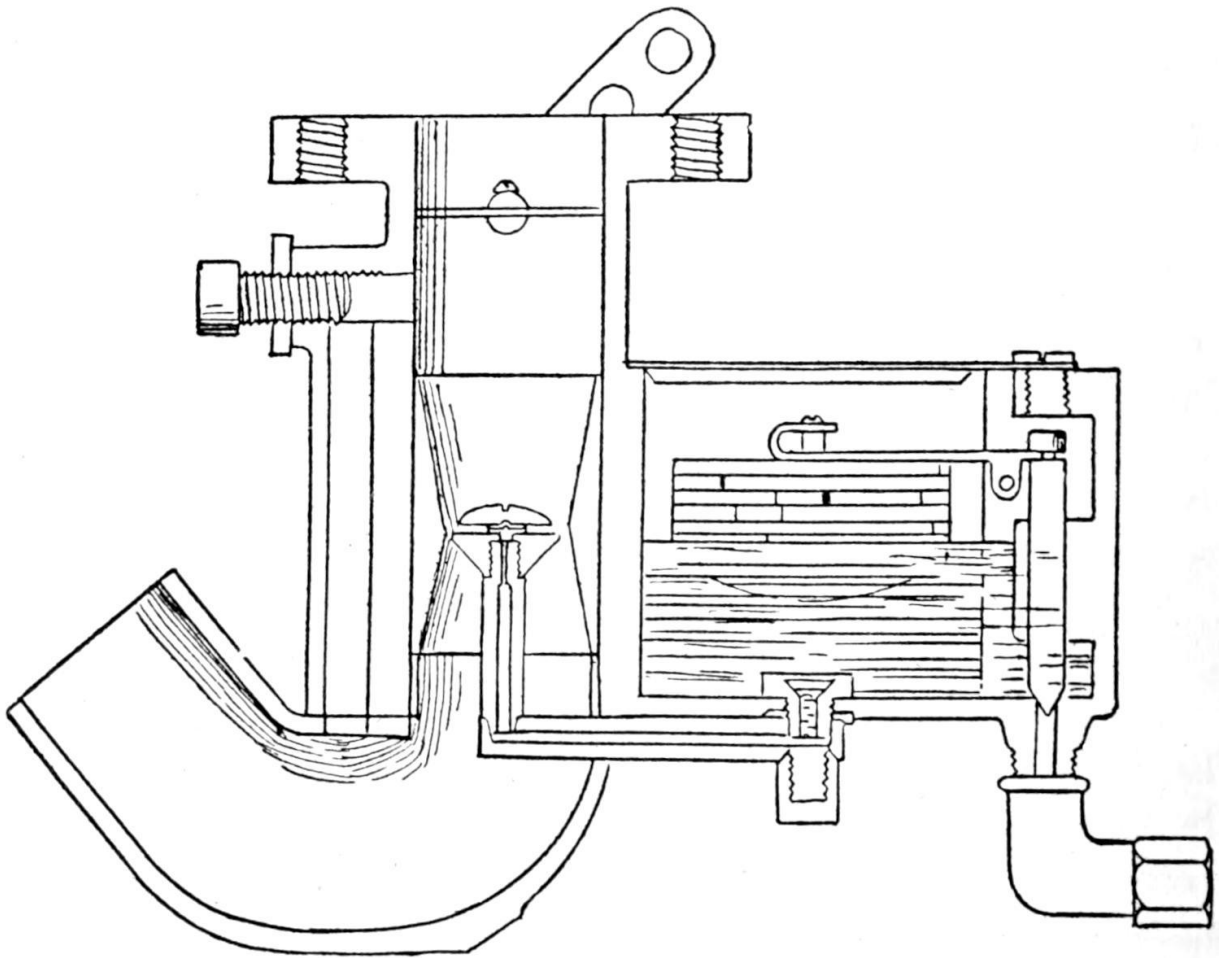
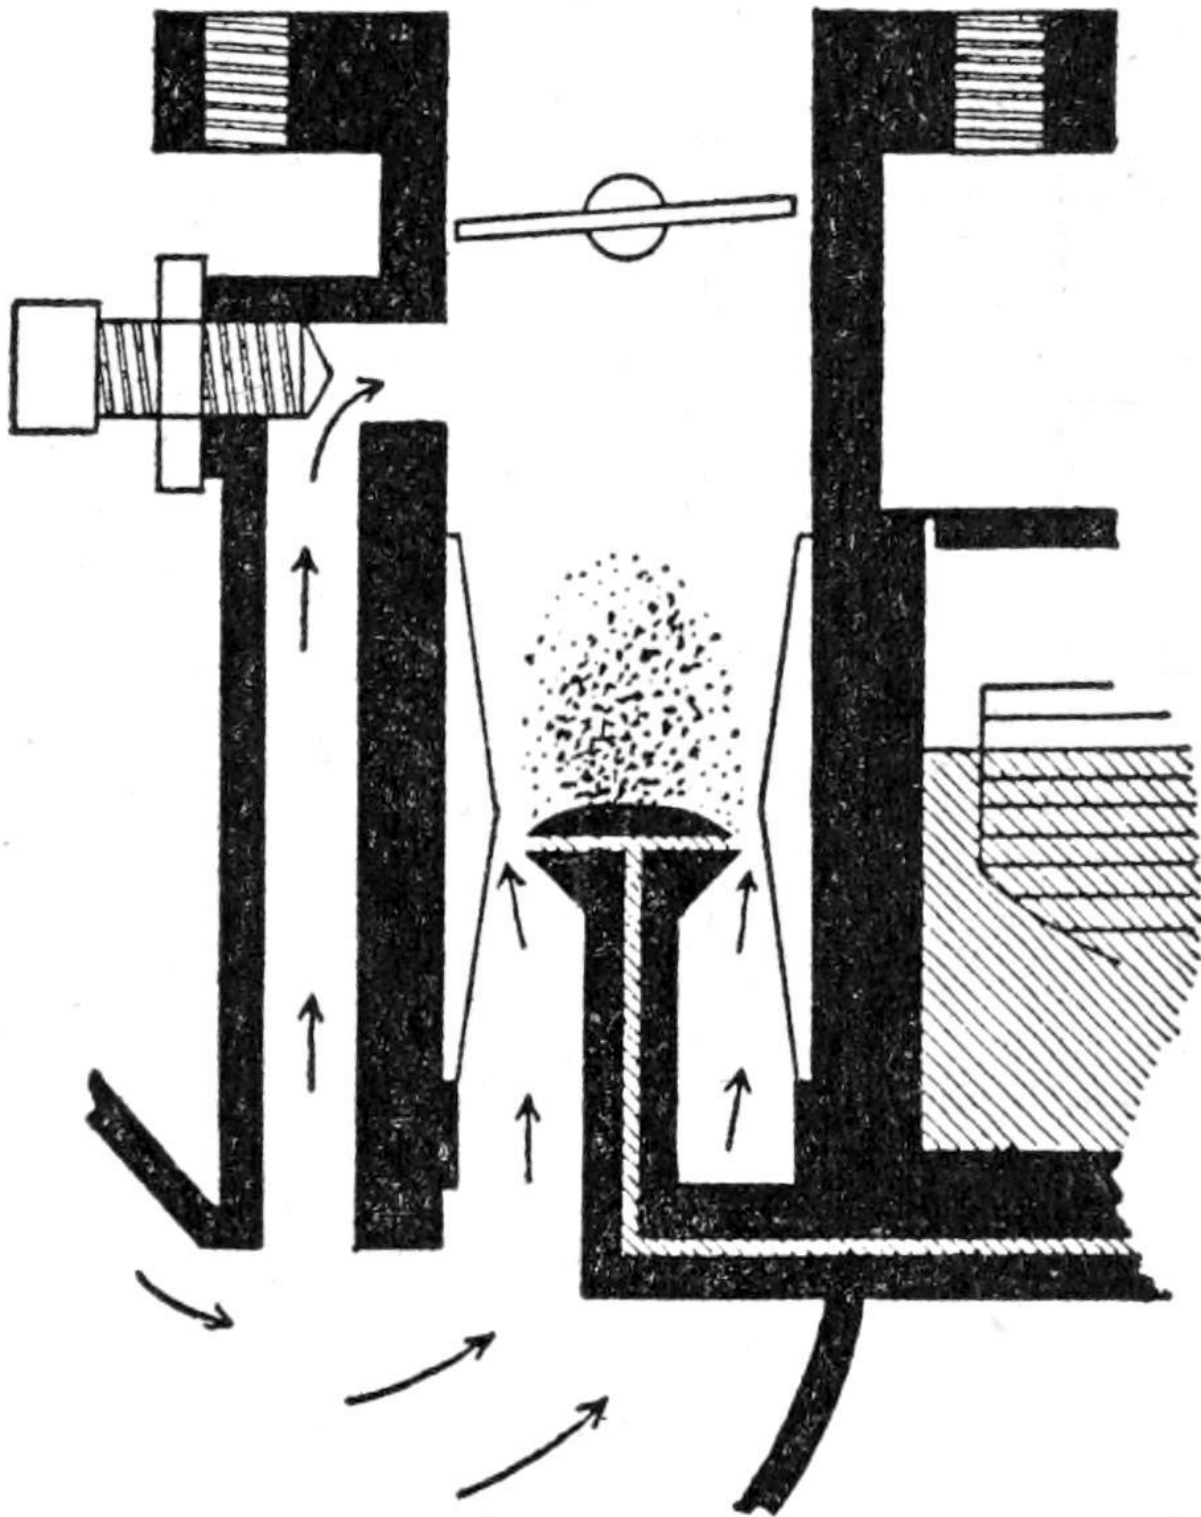
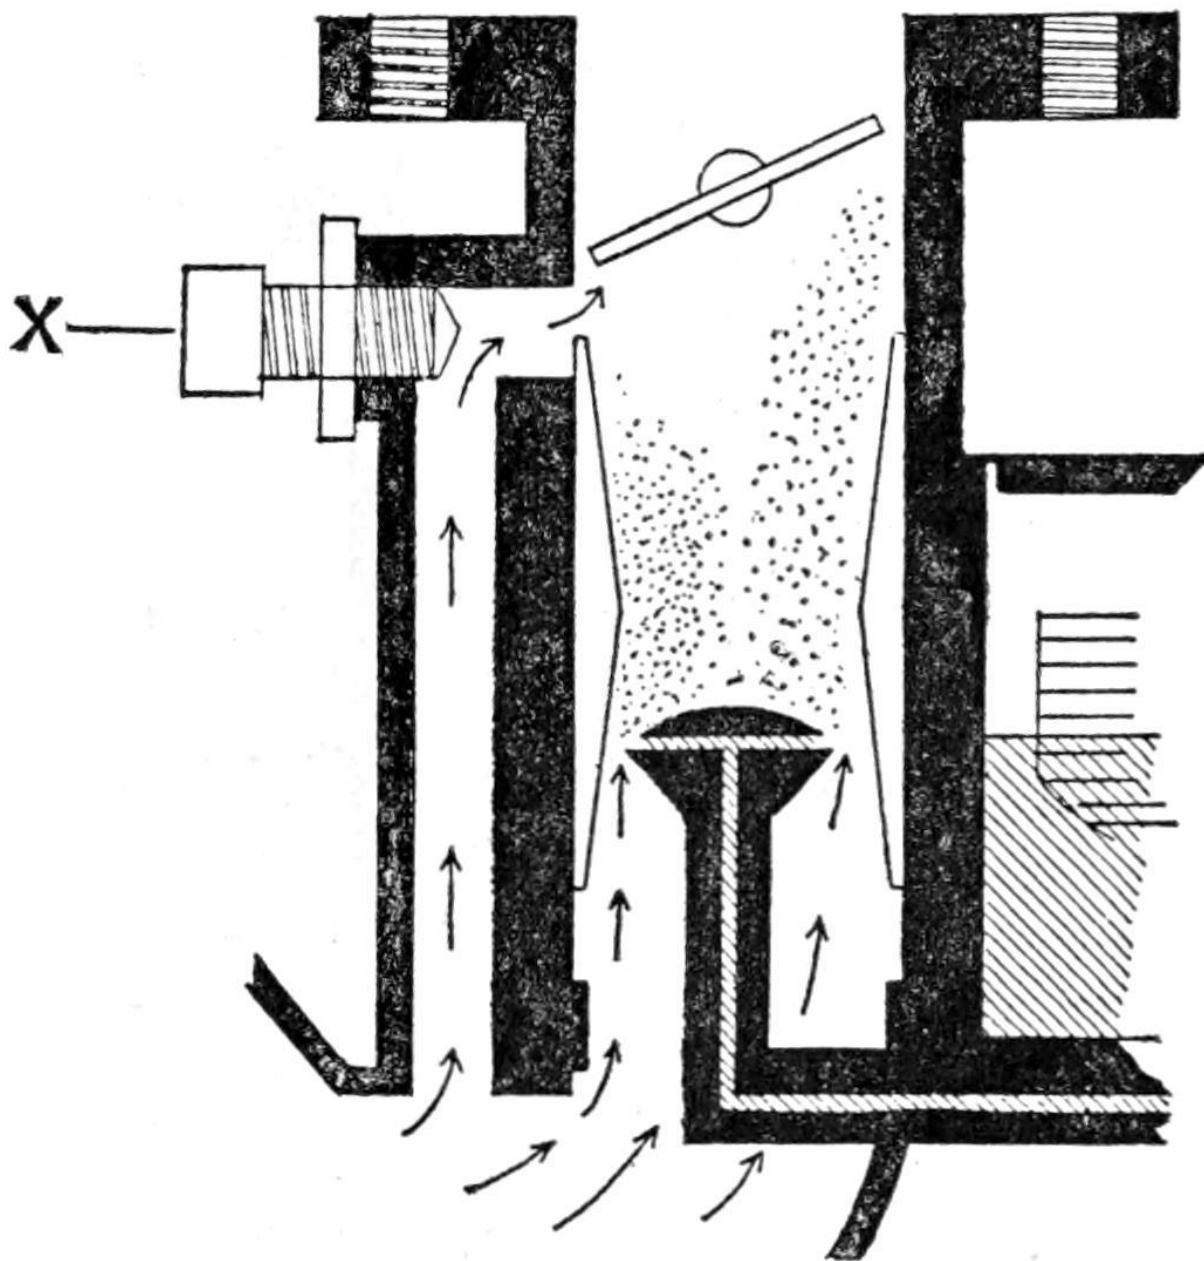

Fig. 34. Sunderman Carburetor
Fig. 35. Sunderman Carburetor
Fig. 36. Sunderman Carburetor
Fig. 34 shows a through section of the new “Nitro”-Sunderman carburetor. This is practically a new model presented to the automobile industry for 1919 and 1920. It is claimed that it is an exact fulfillment of the long sought method of accurate compensation. It is of the single plain tube design with a single gasoline nozzle in the shape of a mushroom placed in
the center of the air passage. Around this nozzle, however, rests the floating venturi which is a large end and small center floating air tube seen in Fig. 35 which hurries the air at low speeds and checks the rush at high velocities. Fig. 35 shows the commencement of action at idling speeds, and as the gasoline for idling comes from the same nozzle which furnishes the maximum power, an air by-pass is provided to reduce the suction on the nozzle at low speeds. The one single adjustment on this type of carburetor is shown at (X) in Fig. 36, and is used only to control the passage of air through the by-pass at idling or low speeds. In Fig. 34 the engine's demand has increased to a point where the suction is greater than the weight of the venturi, which causes it to rise on the air stream, and open up the air passage around the head of the nozzle. This allows the compensation for the correct ratios of the air and gasoline mixtures.